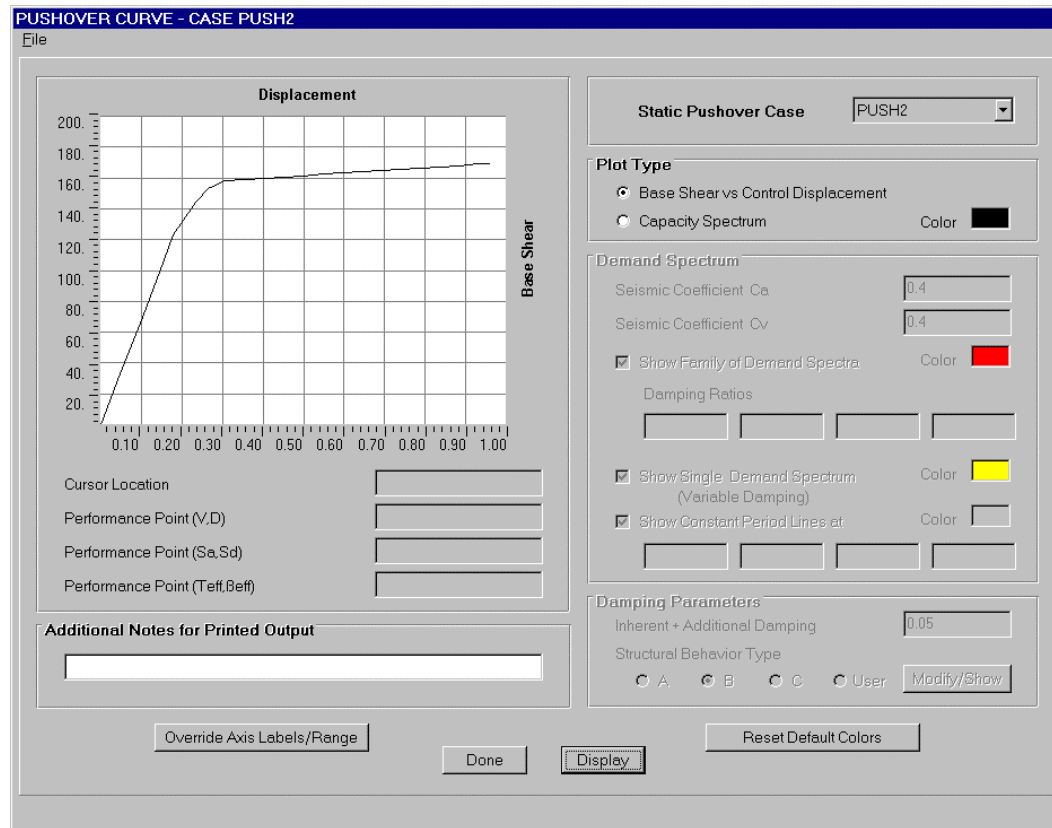

Figure D-7: Pushover Curve For Pushover Load Case PUSH2
6. The dialog box currently appears as shown in Figure D-7. Note the following: